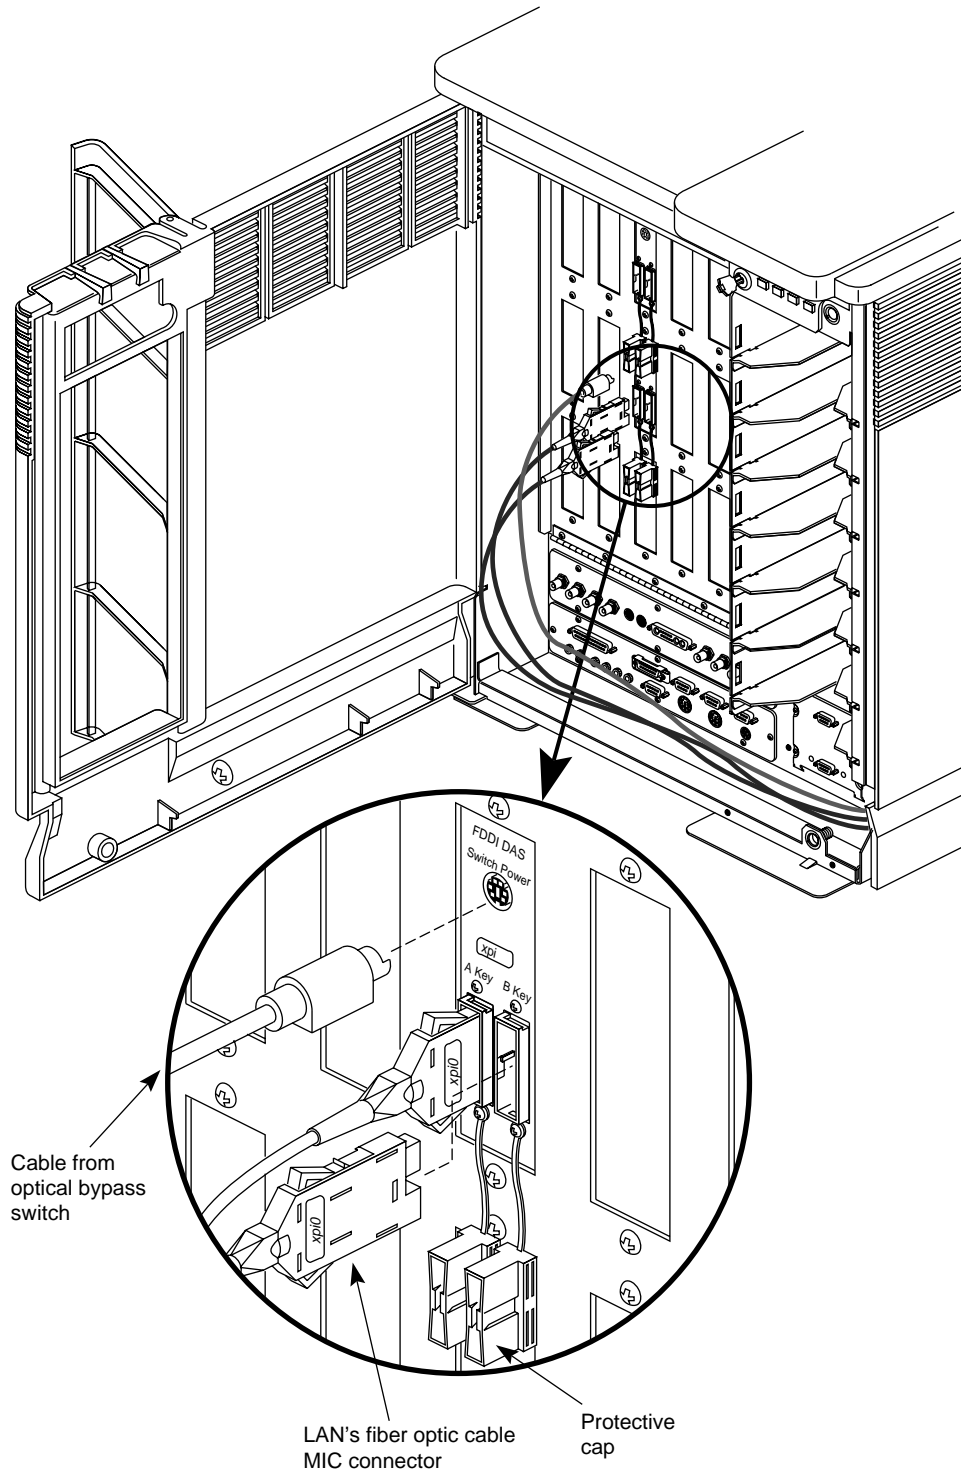

Figure 4-6 Connecting a Site's Fiber Optic Cables to the I/O Panel Plate
3. Attach the site's fiber optic cable. Figure 4-6 illustrates a DAS panel plate; the SAS panel plate, although labeled differently, has a similar layout. The connection should snap (or click) into place.